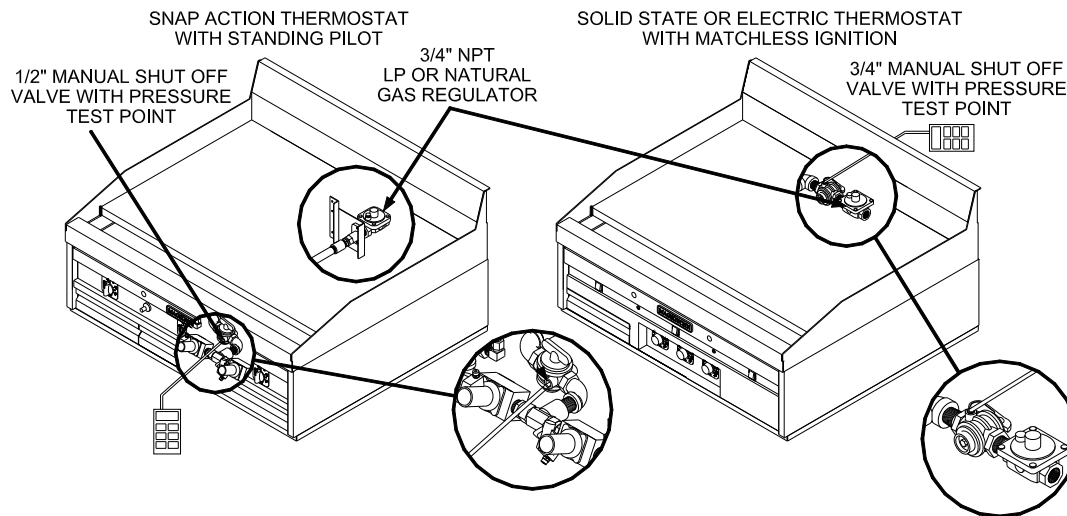

Figure 6
1. The gas input regulator for your new appliance have been installed at the factory, See Figure 6 for the location of the regulator manual shut off valve equipped on your appliance. Using a regulator other than the one supplied with the unit will void the warranty.
2. The manifold pressure must be maintained at the pressure marked on the Data plate. For appliances equipped with Solid State or Electric Thermostat controls the pressure reading is taken at the pressure test point supplied on the $\frac{3}{4}$ " manual shut off valve, see Figure 6. For all other griddles, a pressure test point is supplied on the $\frac{1}{2}$ " manual shut off valve located behind the door, also see Figure 6.
Orifices are sized to provide proper gas flow to the rated BTU/hr for each model. Regulator pressure must be measured and adjusted before the unit goes into service, following installation and when operational performance is in question. The manifold pressure readings are taken at the pressure test points on the supplied manual shut off valves, see Figure 6.
2. Open front door of the griddle, turn the manual gas shut off valve to the **"ON"** position, see Figure 6.
2. Turn the Manual gas shut off valve to the **"ON"** position, this valve is located at the rear of the unit, see Figure 6.
3. Turn the **RED "I/O"** switch to the **"I"** (ON) position for all desired Thermostats to be operated, See detail Method B at right. When the Pilot ready (Amber) light illuminates, the pilot(s) are ready to operate the main burners.